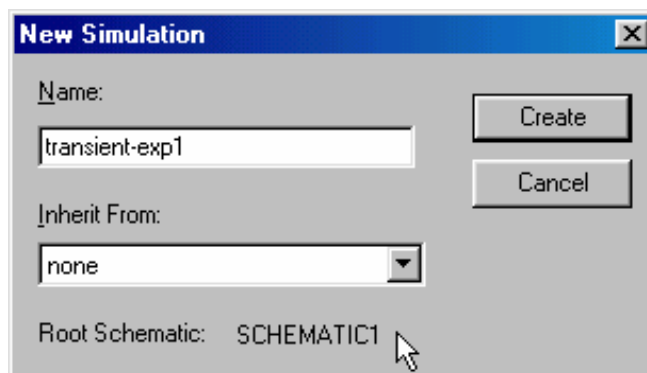

Figure C-8
- Find the *New Simulation Profile* button in the top toolbar menu and click on it . You will get the window shown in figure C-8, in which you must give a name to the file where the specifications for the analysis will be stored. Click on the *Create* button when you have chosen the name for your profile.